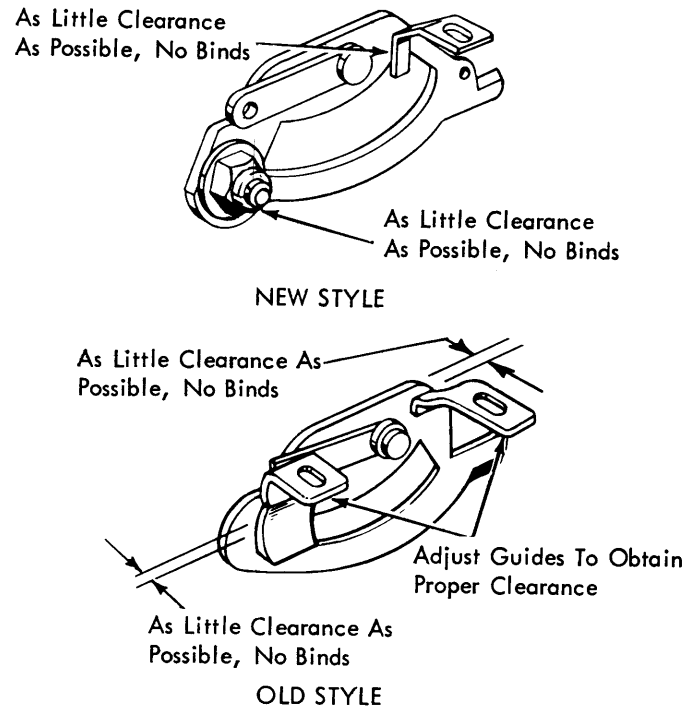

FIGURE 37. Rotate Detent Guides
6. Rotate Detent - Adjust the front and rear guides so that the rotate detent will operate freely with no side play (Fig. 37).